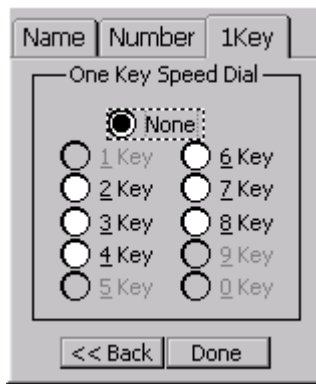

Figure 9. .Telephone Directory Screen
15. Press the SK2 key. The third telephone directory screen displays (see Figure 9)